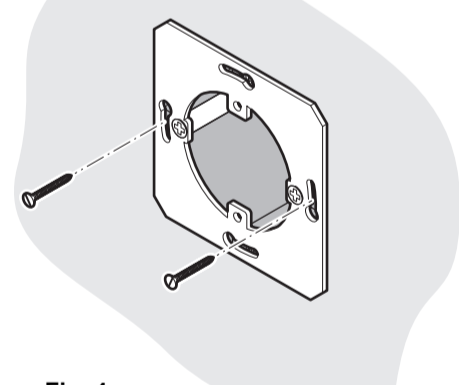

Fig. 4
3. Secure flush fitting wall light to circular connection box (Fig. 4).